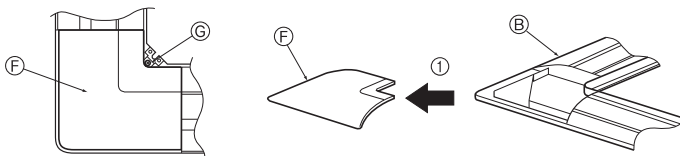

Fig. 7-4
7.2.2. Removing the corner panel (Fig. 7-4)
- Remove the screw from the corner of the corner panel. Slide the corner panel as indicated by the arrow ① to remove the corner panel.